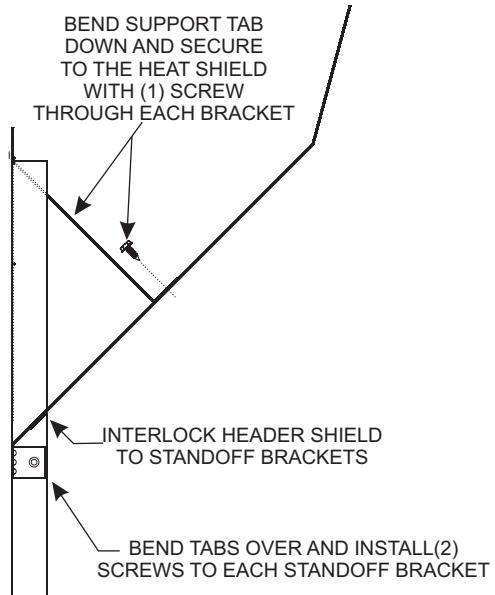

Figure 25
- The two Header Shield halves and (4) Top Standoffs are packaged together and shipped with the fireplace. Pre-assemble each of the Header Shield halves to two of the Top Standoff brackets, before installing to the top of the fireplace and framing header. See Figure 25.